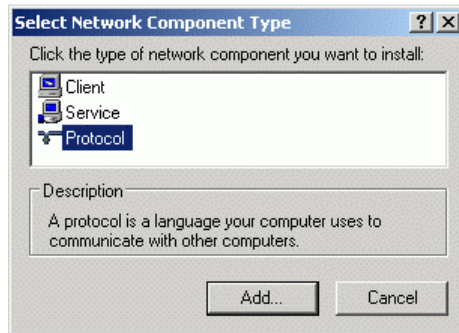

Fig. 2-10: Select Network Protocol
3. Select "Protocol" as the network component to be installed and click on [Add...] (see Fig. 2-10).